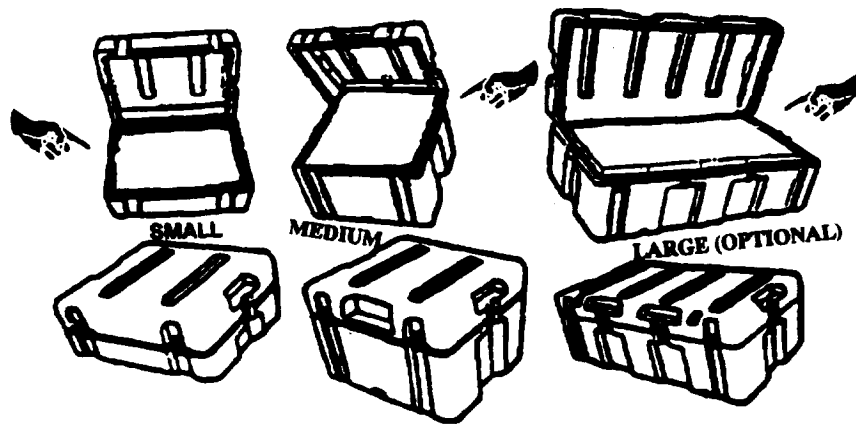

Figure 1-3. AMSS Bask Modules - Rigid Containers, Typical.
- a. As a minimum, each AMSS module (Figure 1-3) contains the mandatory equipment (See Table 1- 1). It may also include additional items approved by the commander.